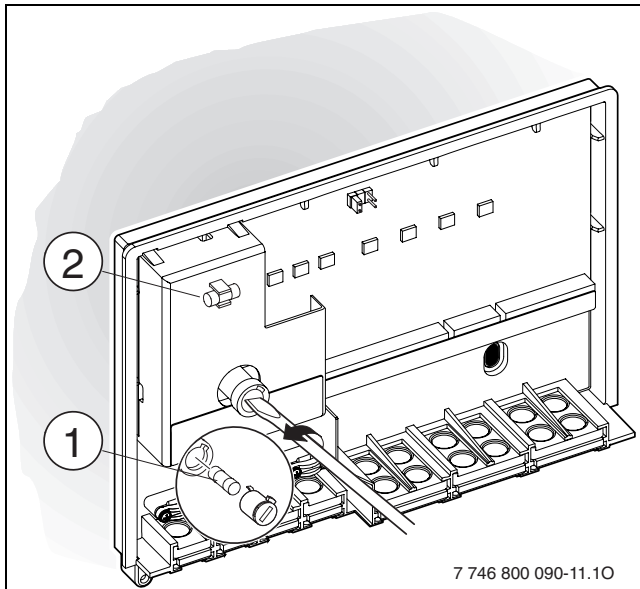

Fig. 14 Replacing the fuse
- ▶ Replace the fuse (→ fig. 14, [1]). A spare fuse [2] is provided in the cover.